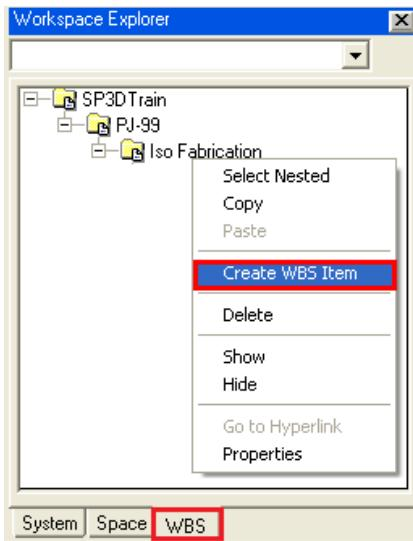

Figure 7: WBS Tab in the Workspace Explorer
10. Right-click the **Iso Fabrication** system in the **Workspace Explorer** and select the **Create WBS Item** command from the menu, as shown in Figure 7, to create a new WBS item in the system **Iso Fabrication**.